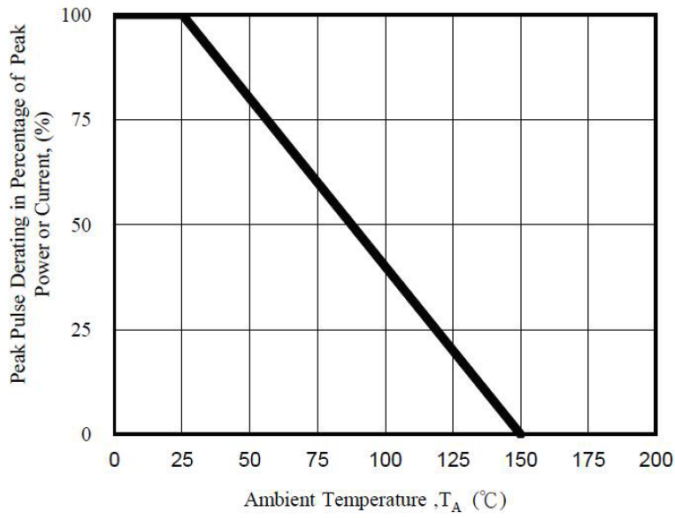
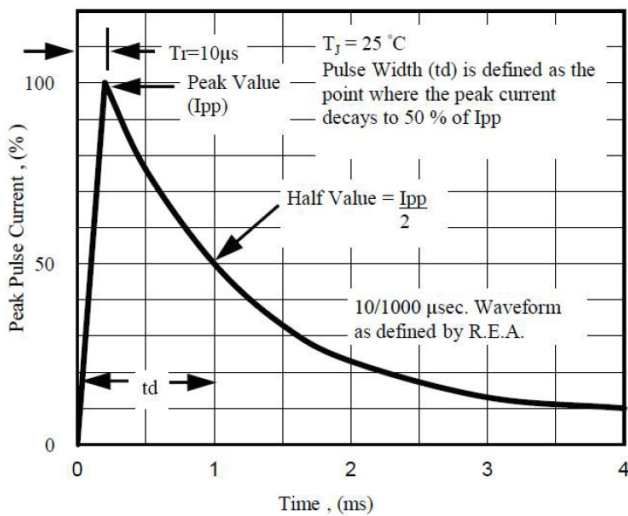

Fig 1. Pulse Derating Curve
Fig 5. Pulse Waveform
Note : (1) Non-repetitive current pulse per Fig.5 and derated above $T_A = 25^\circ\text{C}$ per Fig.1
(2) Measured on 8.3 ms single half sine-wave or equivalent square wave, duty cycle = 4 pulses per minute maximum